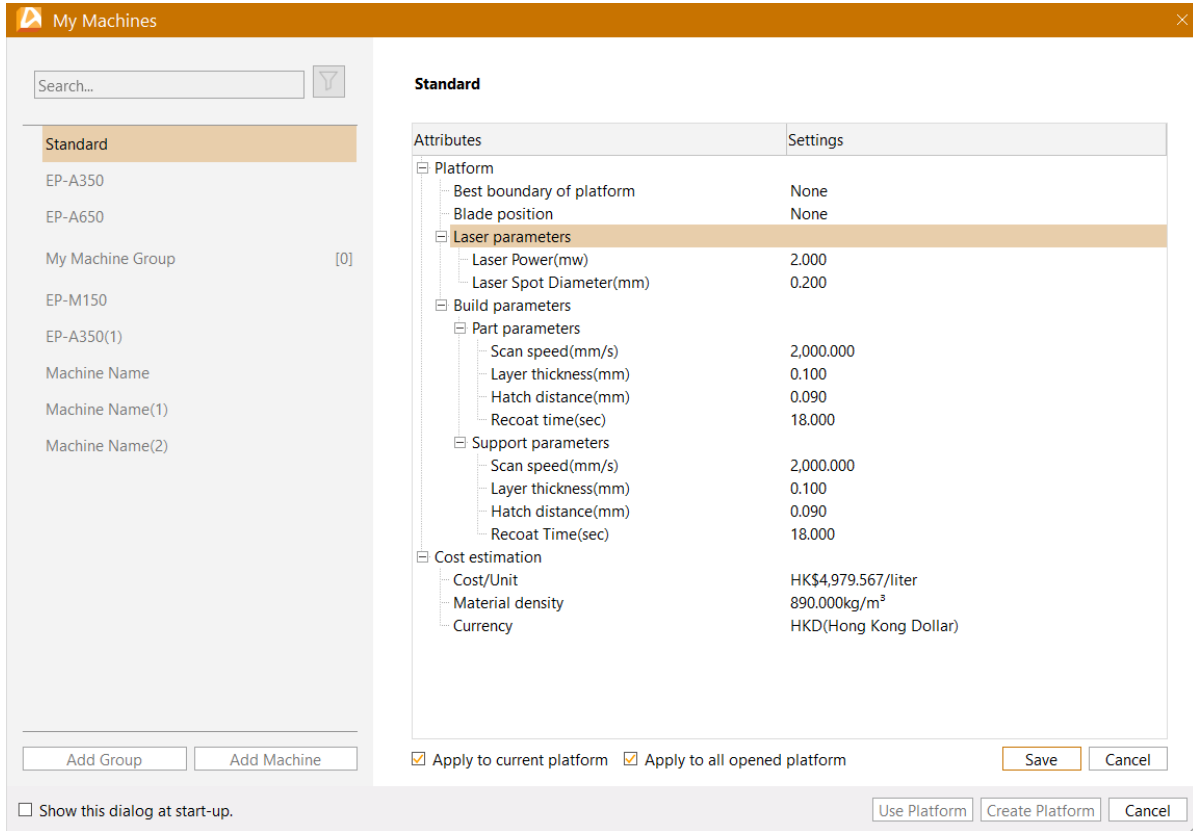

Figure 12.14 Platform attributes setting
2) In the "My Device" dialog, click the "  " icon button, and the setting page of the platform attributes will pop up, as shown in Figure 12.14.